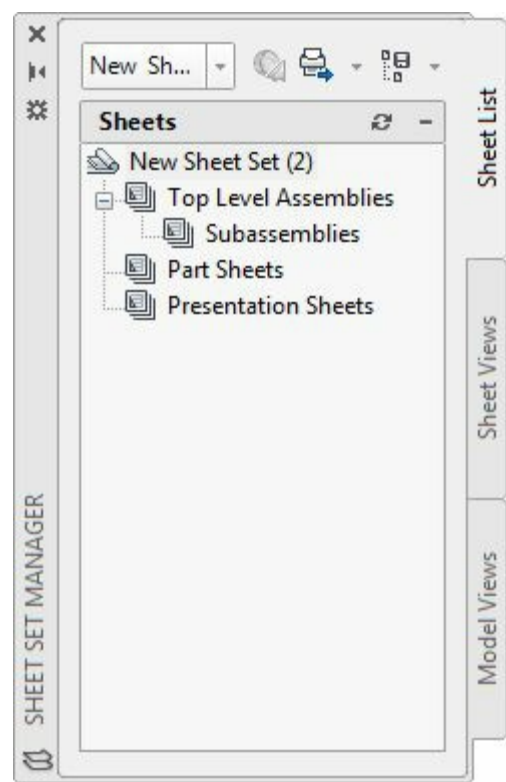

Figure-25. Sheet Set Manager
- Click on the **Finish** button from the page. The **Sheet Set Manager** will be displayed with the current sheet set; refer to Figure-25.